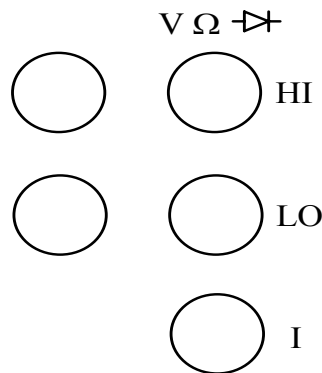

Figure 10
There is a diagram of the front of the multimeter given in Fig. 10.
1. use the right ports labeled HI and LO (see Fig. 10)
1. use the right ports labeled I and LO (see Fig 10)
1. use the right ports labeled HI and LO (see Fig 10)